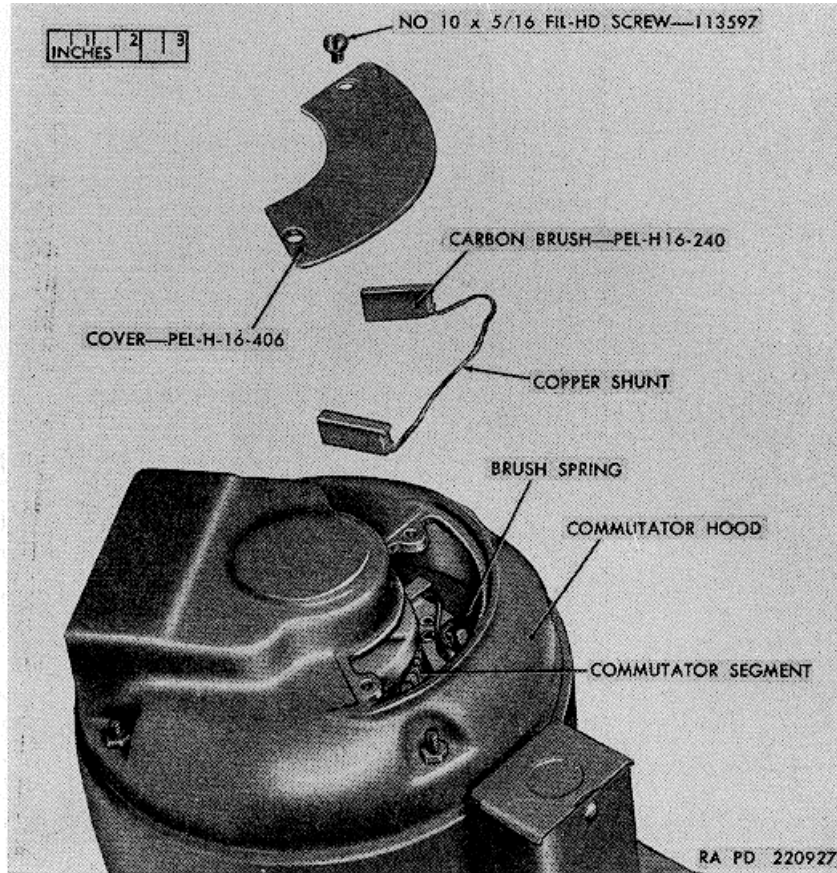
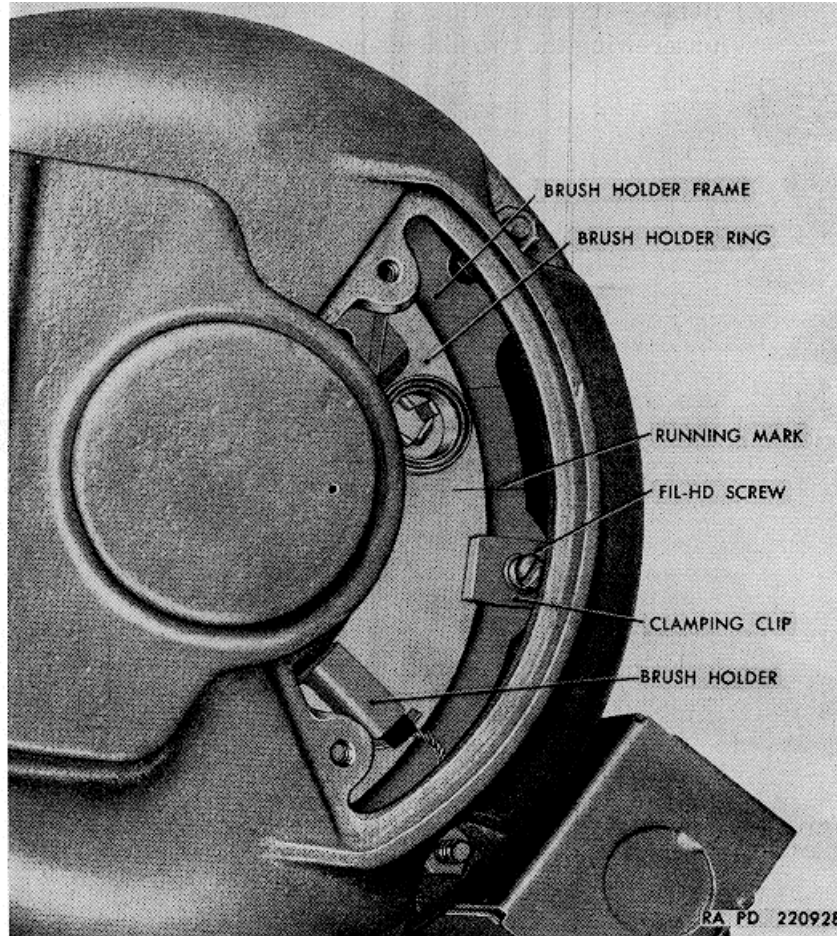

Figure 7. Carbon brush and cover removed from motor.
Figure 8. Cover removed showing running marks aligned in motor.
- (a) Remove the cover (fig. 7) on the commutator hood by unscrewing the two fillister-head screws.
- (b) Loosen the fillister-head screw in the clamping clip (fig. 8) and rotate the brush holder ring so that the carbon brushes (fig. 7) are easily accessible.
- (c) Lift the end of the brush spring (fig. 7) and slide out the carbon brush.
Note. The carbon brushes are in sets of two and each set is held together by a copper shunt (fig. 7).
- (b) Inspect the brush holders (fig. 8) for presence of dirt. If dirty, blow out any accumulation of dirt and dust from around the brush holders and brush holder ring with an air hose and also clean the brush holders with a clean cloth dampened with carbon tetrachloride.
- (c) Inspect the commutator segments (fig. 7) for presence of dirt. If dirty, clean the surfaces of the commutator segments with a clean cloth dampened with carbon tetrachloride. If the commutator segments are burned or pitted, notify ordnance maintenance personnel.
- (d) If brush springs (fig. 7) are weak, bent, or broken, notify ordnance maintenance personnel for replacement.
- (a) Rotate the brush holder ring (fig. 8) so that the carbon brushes may be easily installed.
- (b) Lift the end of the brush spring (fig. 7) and slip the carbon brush into the brush holder (fig. 8), being sure that the copper shunt (fig. 7) side of the brush is toward the brush holder and let the spring snap into the slot on the top of the carbon brush.
- (c) Rotate the brush holder ring (fig. 8), slip the copper shunt (fig. 7) under the brush spring, and install the other carbon brushes as described in (b) above.
- (d) Rotate the brush holder ring (fig. 8) until the running mark stamped on the ring lines up with the right running mark on the brush holder frame, viewing the end of the motor from the front of the bandsaw.
- (e) Tighten the fillister-head screw in the clamping clip (fig. 8) securing the brush holder ring.
- (f) Position the cover (fig. 7) over the opening in the commutator hood and secure it with two No. 10 x  $\frac{3}{4}$ ; fillister-head screws.